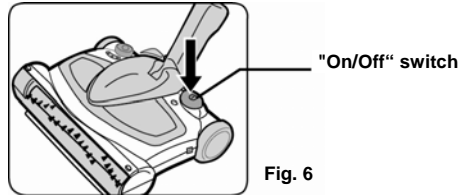

Fig. 6
2. Push the On/Off switch to operate the unit. To turn off, press switch again. (Fig. 6)